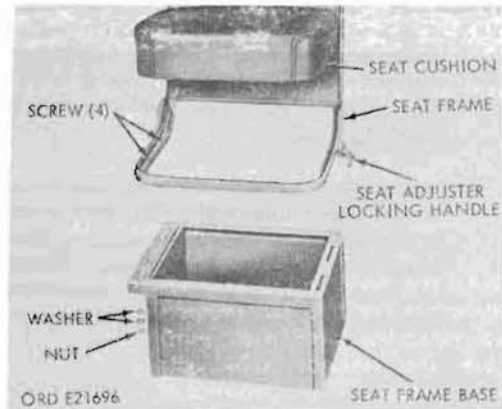

Figure 260. Driver's seat - removal
- (1) Removal. Lift up the driver's seat cushion, and remove the four safety nuts and the eight washers holding the driver's seat frame to the seat frame base (fig. 260). Release the seat adjuster locking handle, and remove the seat.
- (2) Installation. Position the driver's seat on the base and engage the adjuster locking handle. Lift up the seat cushion and fasten the seat frame to the base with the two plain washers and safety nut on each of the four studs.